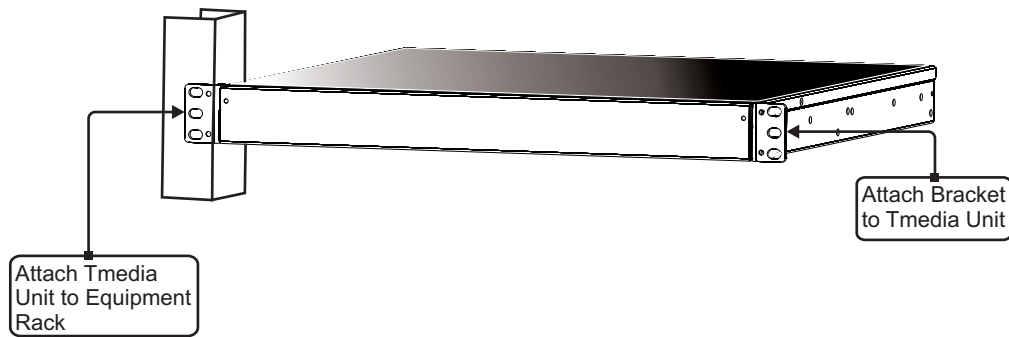

Figure 2.1 Mounting the TMG800
1. Using two metal screws, attach one angle bracket to the front, left-hand side of the TMG800 when viewed from the front, as shown in figure 2.1 on page 8. Repeat the same for the angle bracket on the right-hand side.